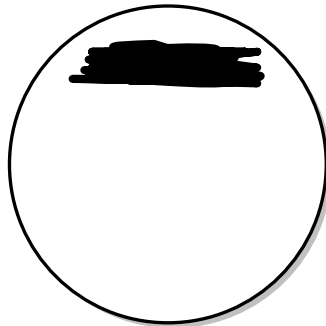

Fig. 6
1. Use the swab to directly inoculate the media. Press and roll the swab against the surface of the agar in the first quadrant (see Fig. 6 below). Inoculate the least inhibitory media first (BAP & CHOC).
1. Roll the tip of the ESwab applicator onto the surface of the first quadrant of the culture plate to provide the primary inoculum (see Fig. 6 below).
1. Using a sterile swab, transfer material to plates by inoculating the first quadrant of each plate (see Fig. 6 above).
1. Using a sterile swab, transfer material to plates by inoculating the first quadrant of each plate (Fig. 6 above).